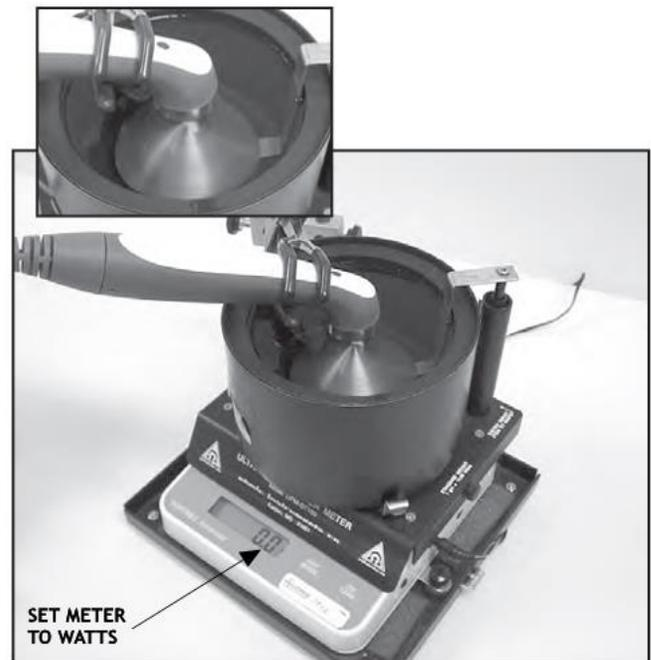

Figure 9.3
6. Place the Ultrasound Applicator being calibrated into the Ohmic Instruments UPM DT 100 or DT 10 Ultrasound Power Meter and set meter to "Watts". **See Figure 9.3.**